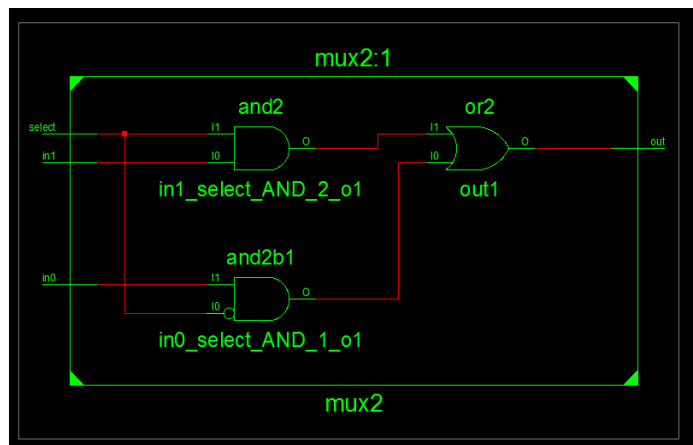

Figure 5
3. Check the design summary: as the project progresses, a report are generated in each process. All reports can be checked on the design summary window. Also you can look at the RTL schematics by double clicking on “View RTL Schematics”, see Figure 5.